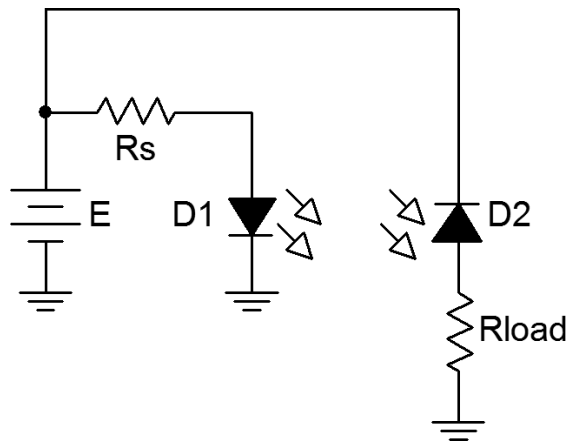

Figure 1
5. Figure 1 shows an emitter/detector pair. These devices will emit and detect light at the same wavelength and tend to not produce or detect light at other wavelengths. This aids in avoiding interference. The detector is configured in photoconductive mode. Its current will increase with increasing light level. This current also flows through  $R_{load}$  meaning that  $V_{load}$  will be
6. Build the circuit of Figure 1 using  $E = 7$  volts,  $R_s = 470\ \Omega$  and  $R_{load} = 33\ k\Omega$ . The emitter diode is denoted with a yellow dot on its case while the detector diode shows a red dot. It is very important that the pair properly be aligned. The bubbles should face each other and cases should be at same height, effectively aiming one bubble at the other. Further, they should only be a few millimeters apart. Finally, the short leads indicate the cathodes.